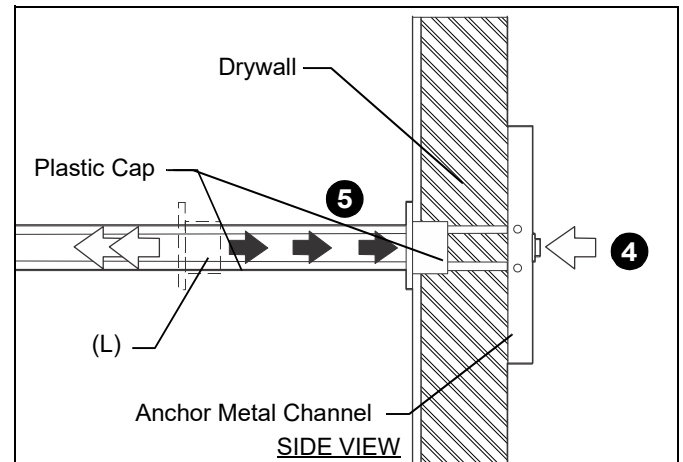

Figure 8
4. Holding plastic straps on anchor (P), pull anchor away from wall until channel rests flush behind wall making sure anchor channel is positioned vertically on drywall. (See Figure 8)
5. Slide plastic cap on anchor (P) towards wall until flange of cap is flush with wall. (See Figure 8)